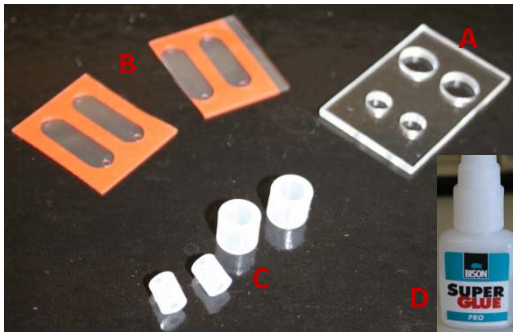

Figure 1. Materials for preparation of chambers. A: Premade Plexiglas, B: CoverWell Perfusion chamber cut in half, C: inlet and outlet tubes and D: Super glue
1. Prepare materials for making top part of the chamber (Fig. 1)